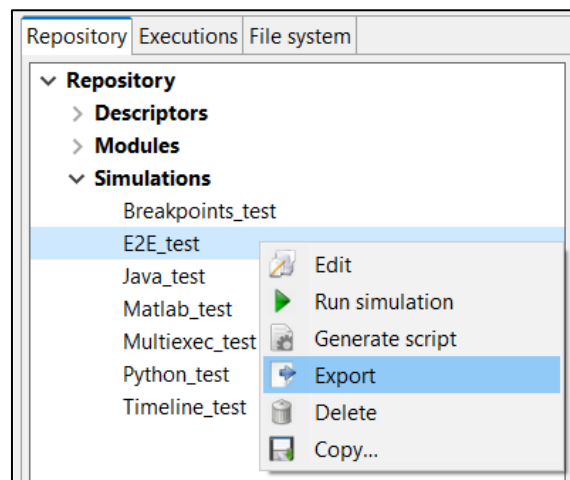

Figure 4-132: Export from the repository menu
1. From the **Repository** menu. In this case, we need to navigate from the "Repository" menu down to the simulation that the user wishes to export. Next, right-clicking over it; the "Export" option appears for selection. This is illustrated in Figure 4-132 below.